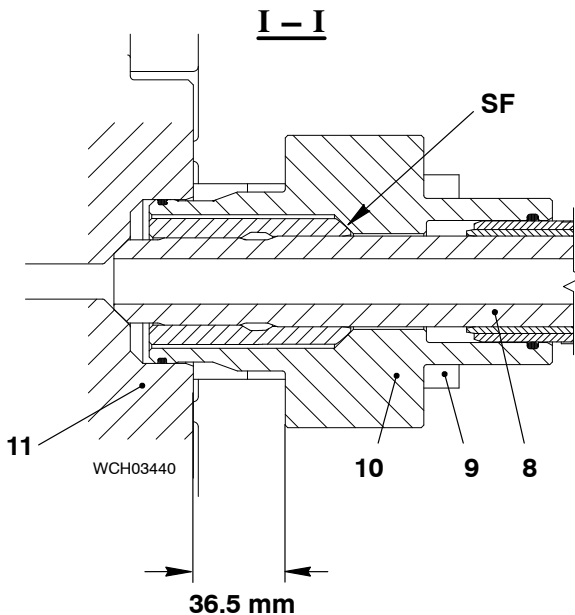

Fig. 15
- 19) Carefully put the HP fuel pipe (1, Fig. 15) in position with the intermediate piece (5) and the valve housing (4).
- 20) Make sure that the HP fuel pipe (1) is in the correct position. Align the marks (MA, Fig. 13) on the HP fuel pipe (1, Fig.15) and on the flange (6).
- 22) Make sure that there is a distance of 39.5 mm between the flange (6) and the intermediate piece (5).
- 23) Make sure that there is a distance of 36.5 mm between the flange (3) and the valve housing (4).
- 24) Tighten the screws (8) on the support (9).
- 25) Make sure that there is a distance of 54.0 mm between the steel ring (5) and the slide ring (4).